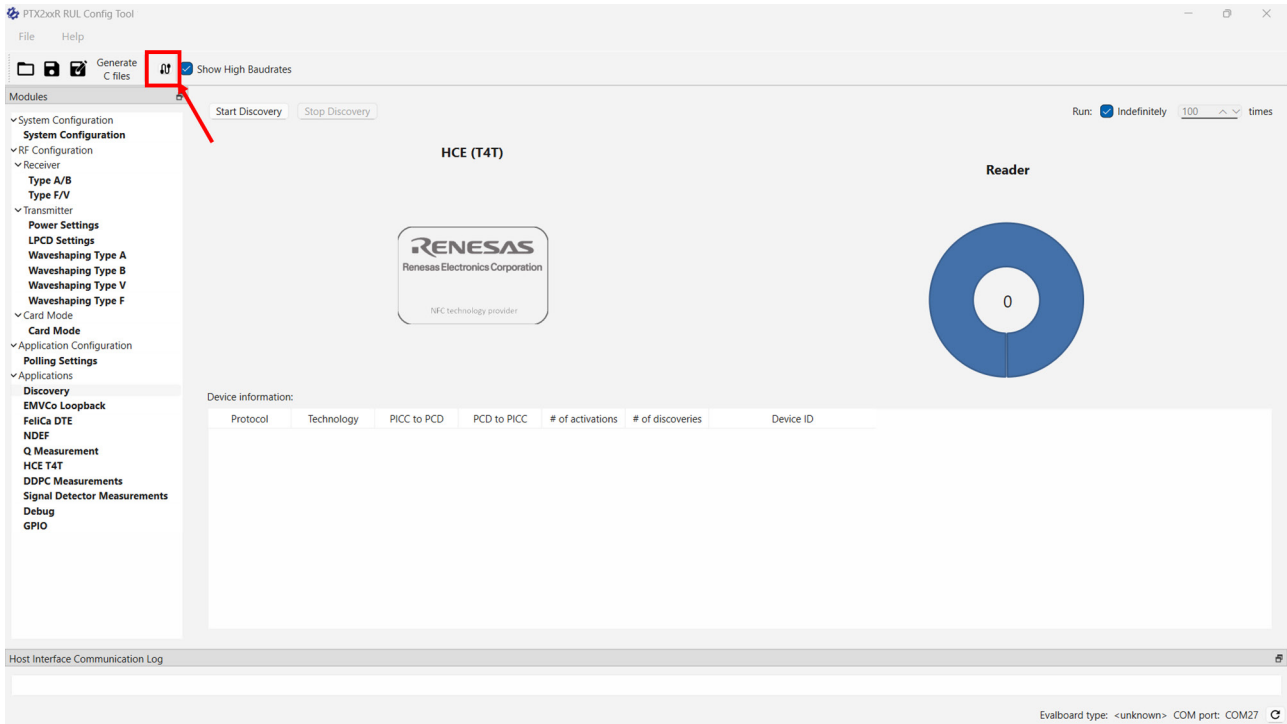
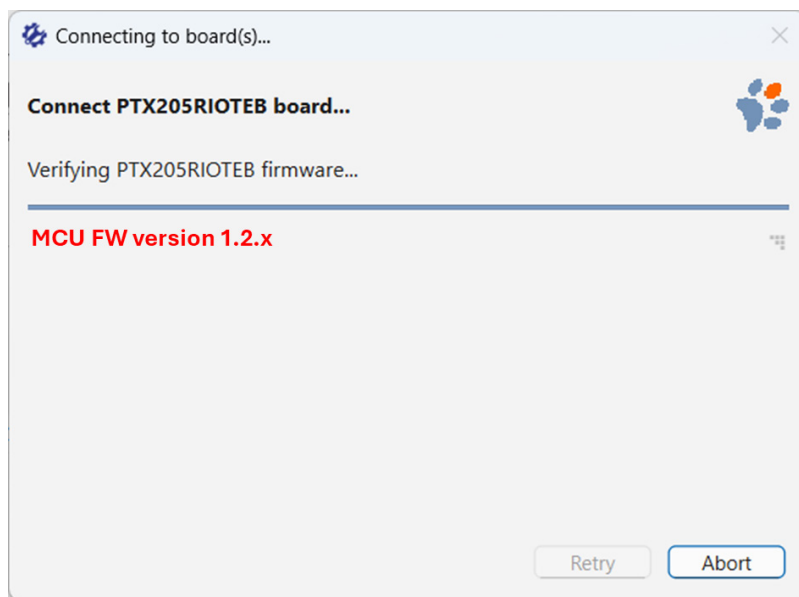

Figure 6. Config Tool Window – Connection Wizard
Figure 7. Connection Wizard Window
3. Click on the wizard button (see Figure 6). If the firmware is not working, it may be necessary to press the physical reset button on the evaluation board before updating the firmware. When started, the board's firmware is verified and upgraded (if required) – no user interaction is required (see Figure 7).